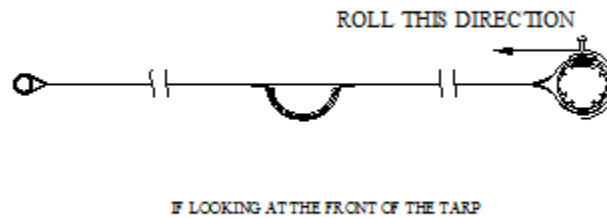

Figure 11
Refer to figure 11 for proper tarp assembly. Tarp may not have center ridge pole. Note: This is looking at the front of the tarp if system is Passenger stowing and it is looking at the rear of the tarp if the system is driver stowing.
9. Role the tarp up starting with the axle (as shown above in Figure 11)